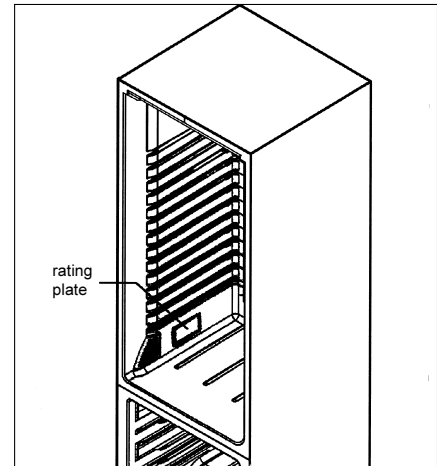

Fig. 1
- When contacting our experienced warranty administrators, please quote the model and serial number, both of which are shown on the data plate which is located (on the left hand inside wall of the fridge behind the salad box. See fig 1. Page 13).
The climate classification can be found on the rating plate, which is located on the bottom, left hand side of the fridge compartment. The table shows the correct operating ambient temperature for each climate class. (Fig 1)